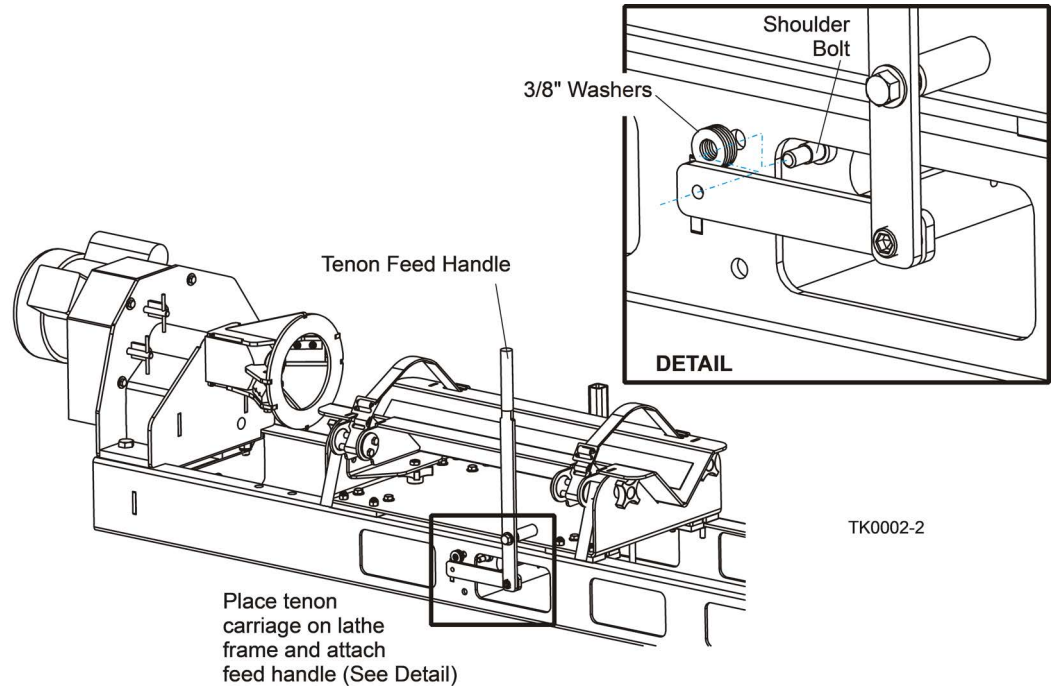

FIG. 2-3
1. Position the tenon carriage assembly on the LatheMizer frame and secure the feed handle to the lathe frame using the provided shoulder bolt and 3/8" flat washers. See Fig. 2-3.